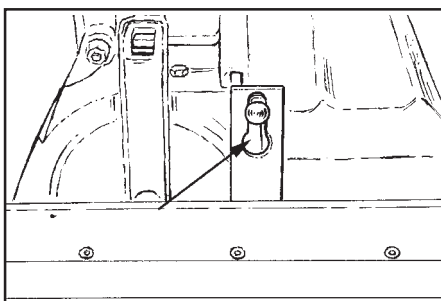

Figure 33
1. Align slot in side skirt with mounting stud on brush head and install side skirt onto brush head unit (see figure 33).